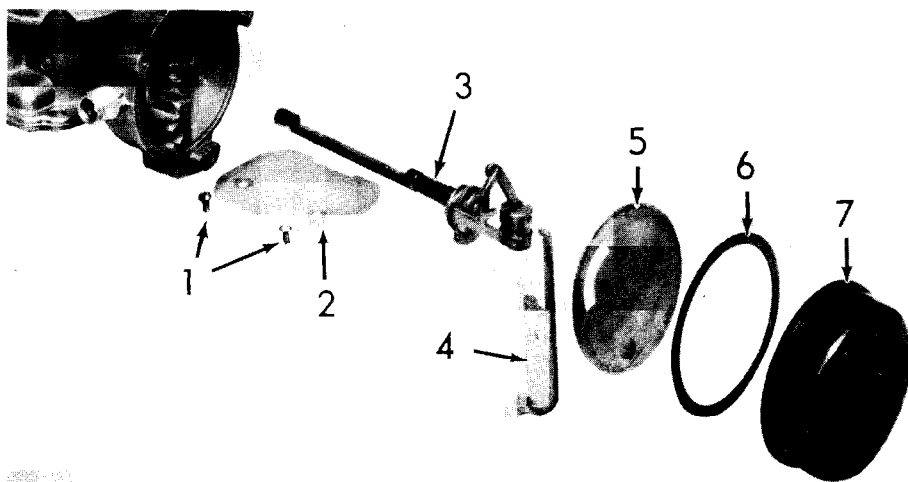

Fig. 12
Remove the choke housing retaining screws (8, Fig. 12) and **remove** the Choke housing (7). Remove the housing gasket (6) and baffle (5). Disconnect the choke piston-to-throttle valve link (5) and remove the link.